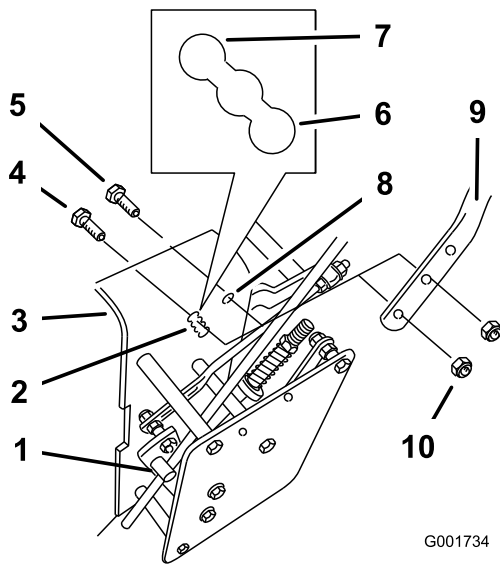

Figure 23
- Loosen the upper flange bolts (3/8 x 1-1/4 inch) and flange nut securing handle to rear frame (Figure 23).
- Remove the lower flange bolts (3/8 x 1 inch) and flange nuts securing handle to rear frame (Figure 23).